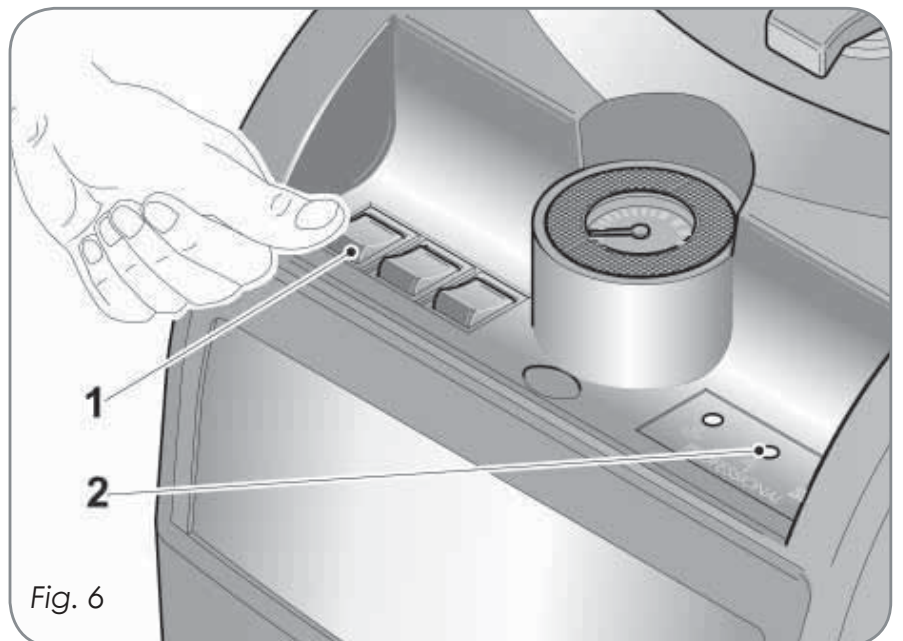

Fig. 6
Turn on the machine using the main switch located on the side of the control panel. (The pressed key will light up - 1 Fig. 6)
When the boiler is filling with water, the indicator (2 - Fig. 6) and the acoustic signal switch off.
- If during filling the level probe located in the tank should remain exposed, the system immediately stops refilling operations and the signal lamp (2 fig.6) starts blinking together with an intermittent acoustic signal.
- Each time the tank level probe senses a low water level, the system immediately stops refilling operations and the signal lamp (2 fig.6) starts blinking together with an intermittent acoustic signal.
- **WARNING!** If during the normal refilling phase the boiler level probe remains exposed for more than **3 minutes** consecutively, the system disables heating and refilling functions, and the signal lamp starts blinking along with an acoustic signal. At this point the generator must be reset by turning the general switch off and then back on (1 fig. 6).